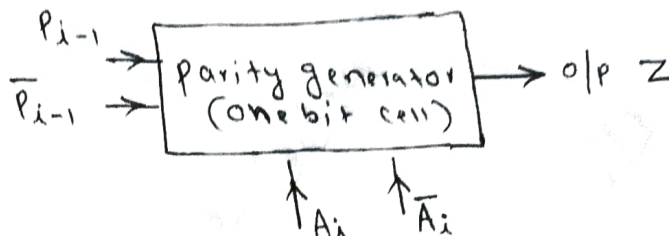

Fig.Q7(a)
- 7 a. Construct a stick diagram for an nMOS parity generator as shown in Fig.Q7(a). The required response is such that $z = 1$ if there is an even number (including zero) of 1s on the input and $z = 0$ if there is an odd number.